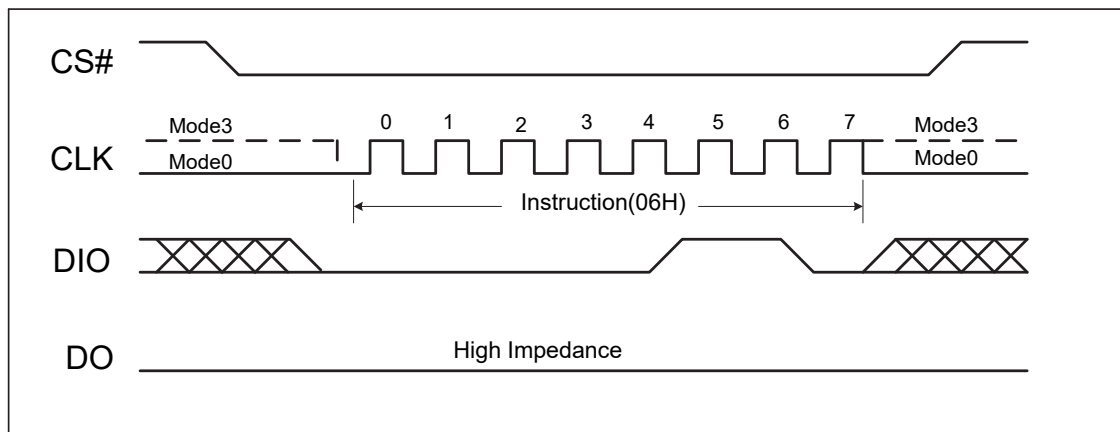

Figure 7, Write Enable Instruction Sequence Diagram
Instructions vary in length from a single byte to several bytes and may be followed by address bytes, data bytes, dummy bytes (don't care), and in some cases, a combination. Instructions are completed with the rising edge of edge CS#. Clock relative timing diagrams for each instruction are included in figures 7 through 34. All read instructions can be completed after any clocked bit. However, all instructions that Write, Program or Erase must complete on a byte boundary (CS driven high after a full 8-bits have been clocked) otherwise the instruction will be terminated. This feature further protects the device from inadvertent writes. Additionally, while the memory is being programmed or erased, or when the Status Register is being written, all instructions except for Read Status Register will be ignored until the program or erase cycle has completed.
The Write Enable instruction (Figure 7) sets the Write Enable Latch (WEL) bit in the Status Register to a 1. The WEL bit must be set prior to every Page Program, Sector Erase, Block Erase, Chip Erase and Write Status Register instruction. The Write Enable instruction is entered by driving CS# low, shifting the instruction code “06h” into the Data Input (DI) pin on the rising edge of CLK, and then driving CS# high.